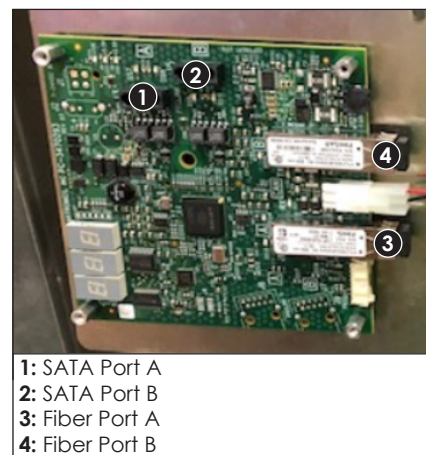

Figure 26: PLR
3. Use the supplied power cable (Daktronics part number W-3915142) to connect the PLR to the power supply fan connector. Refer to **Figure 26**.
4. Connect the field-terminated fiber cable to Fiber Port A on the first PLR in the system (typically the upper-right corner of the first cabinet when viewed from the rear). Refer to **Figure 26**.
5. Route the supplied fiber cables from Fiber Port B on the first PLR to Fiber Port A on the next PLR. Refer to **Figure 26**. Depending on the number of PLRs, this process is continued until Fiber Port A on the final PLR in the chain is connected. Refer to the contract-specific Signal Interconnect Drawing.
3. Unplug SATA Port A and SATA Port B, the fiber transmit and receive dual LC connections, and the two-pin power jack from the PLR. Refer to **Figure 26**.